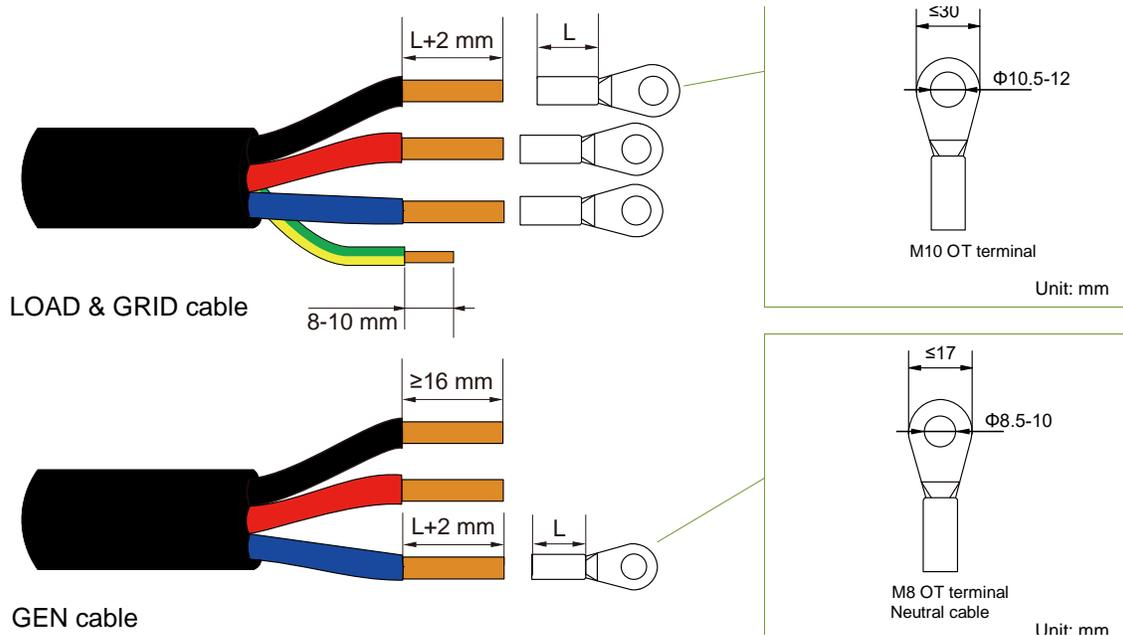

Figure 4-7 Remove Jacket and Insulation Layer
- When the LOAD, GRID, and GEN cables are ready to use, thread them through the conduit, then remove an appropriate length of the insulation layer from the cable (see Figure 4-7):